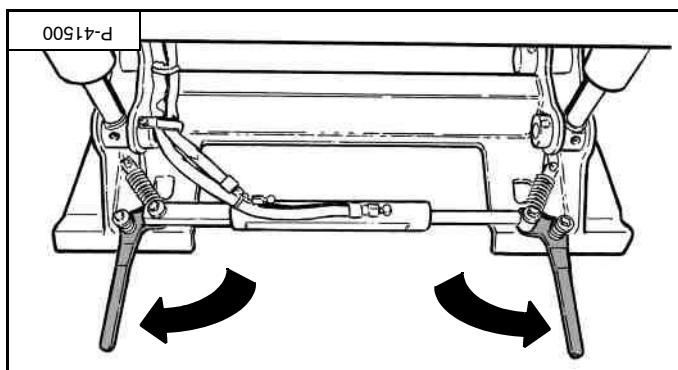
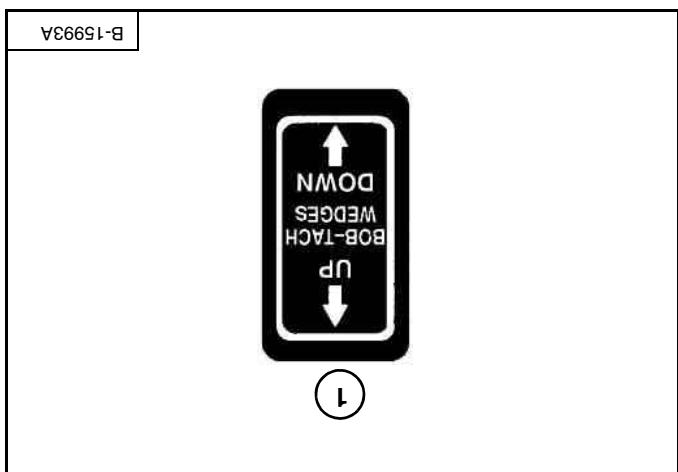

Figure 35
Figure 34
Push and hold the BOB-TACH "WEDGES UP" switch (item 1) [Figure 34] until the levers are fully raised (wedges fully raised) [Figure 35].